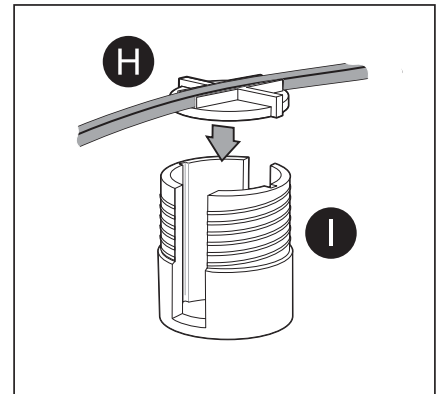

Fig. 5
3. Place the power cable on the tray (H). Align with the grooves in the base (I) and insert as shown (Fig. 5).